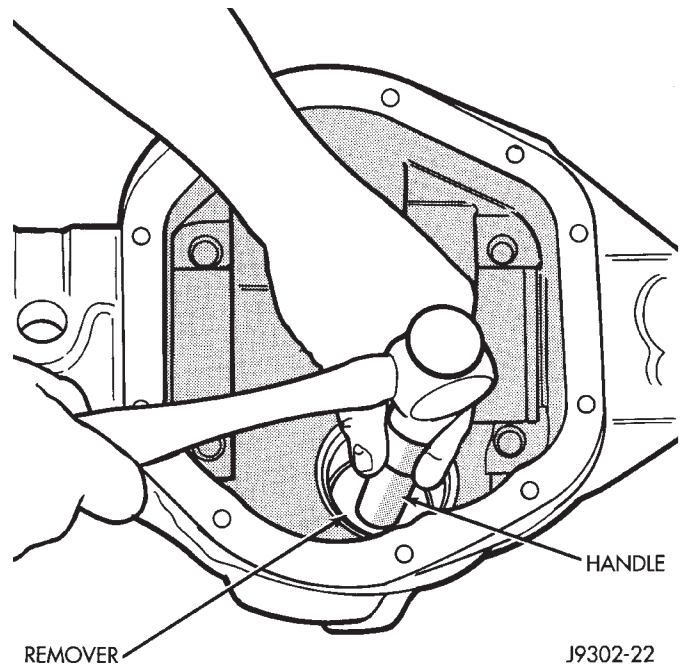

Fig. 26 Front Bearing Cup Removal
(8) Remove the pinion shaft seal with suitable pry tool or slide-hammer mounted screw.
(9) Remove oil slinger, if equipped, and front pinion bearing.
(10) Remove the front pinion bearing cup with Remover C-4345 and Handle C-4171 (Fig. 26).